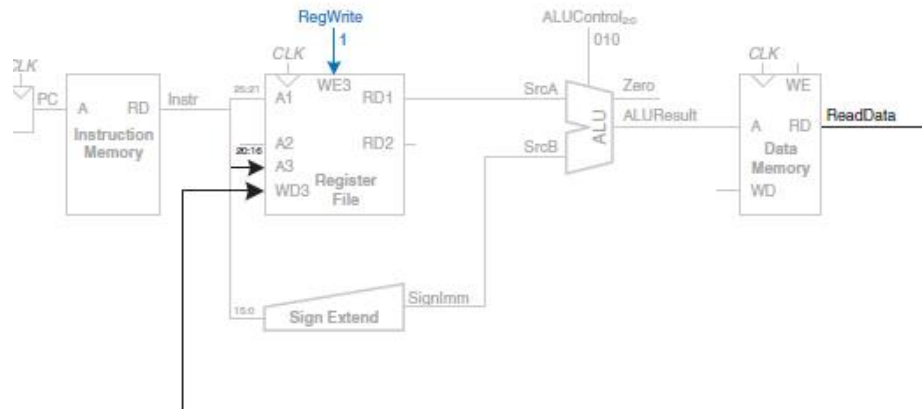

Figure 7.6 Write data back to register file
- The data is read from the data memory onto the ReadData bus, then written back to the destination register in the register file at the end of the cycle, as shown in Figure 7.6. Port 3 of the register file is the write port.